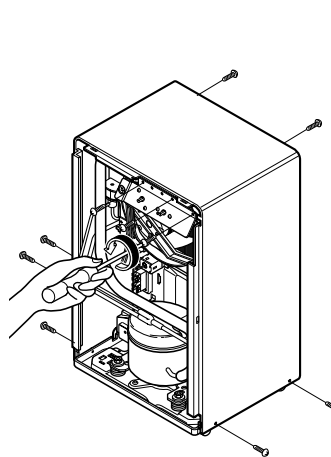

Figure 7
2. Remove control panel by removing 3 screws. (See Figure 7)
3. Remove 7 screws on all sides of the cabinet. (See Figure 7)